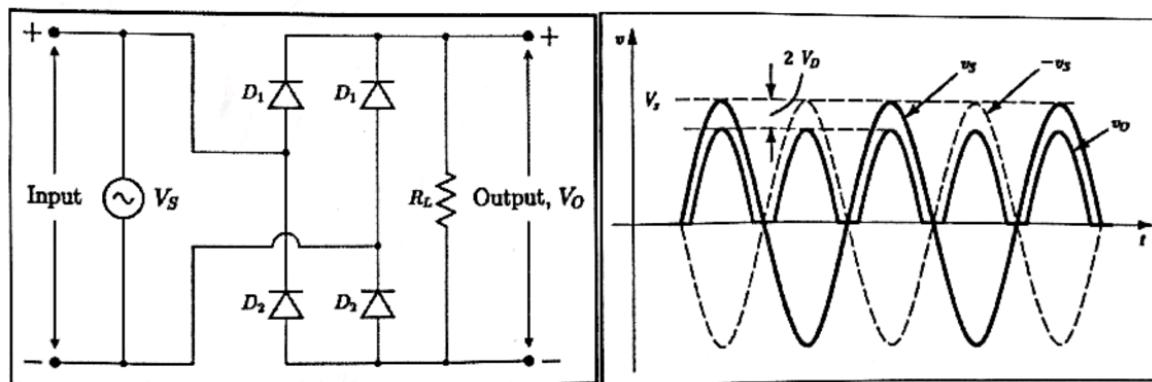

Figure 5: Full-Wave Rectifier Circuit without Capacitor and the Waveform of Input and Output
1. Construct circuit of **Figure 5**. Observe V_S and V_O separately on the oscilloscope [i.e. don't use both channels simultaneously, use only one channel].